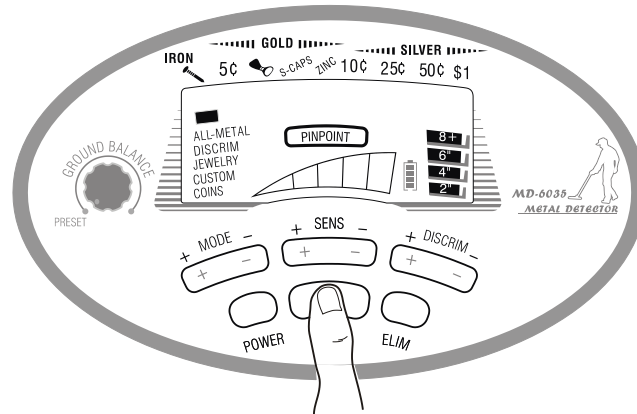

Fig17
- a) Press and hold down the PINPOINT button, the PINPOINT cursor is lighted, and the depth cursor points to 8+.The target ID cursor in the upper cursor is useless, the target discrimination cursor in the lower cursor is extinguished, and the detector sound a low single-frequency medium tone. (If the lower cursor doesn't extinguish, you can release the PINPOINT button for several seconds, then press it again.). (See Figure 17)